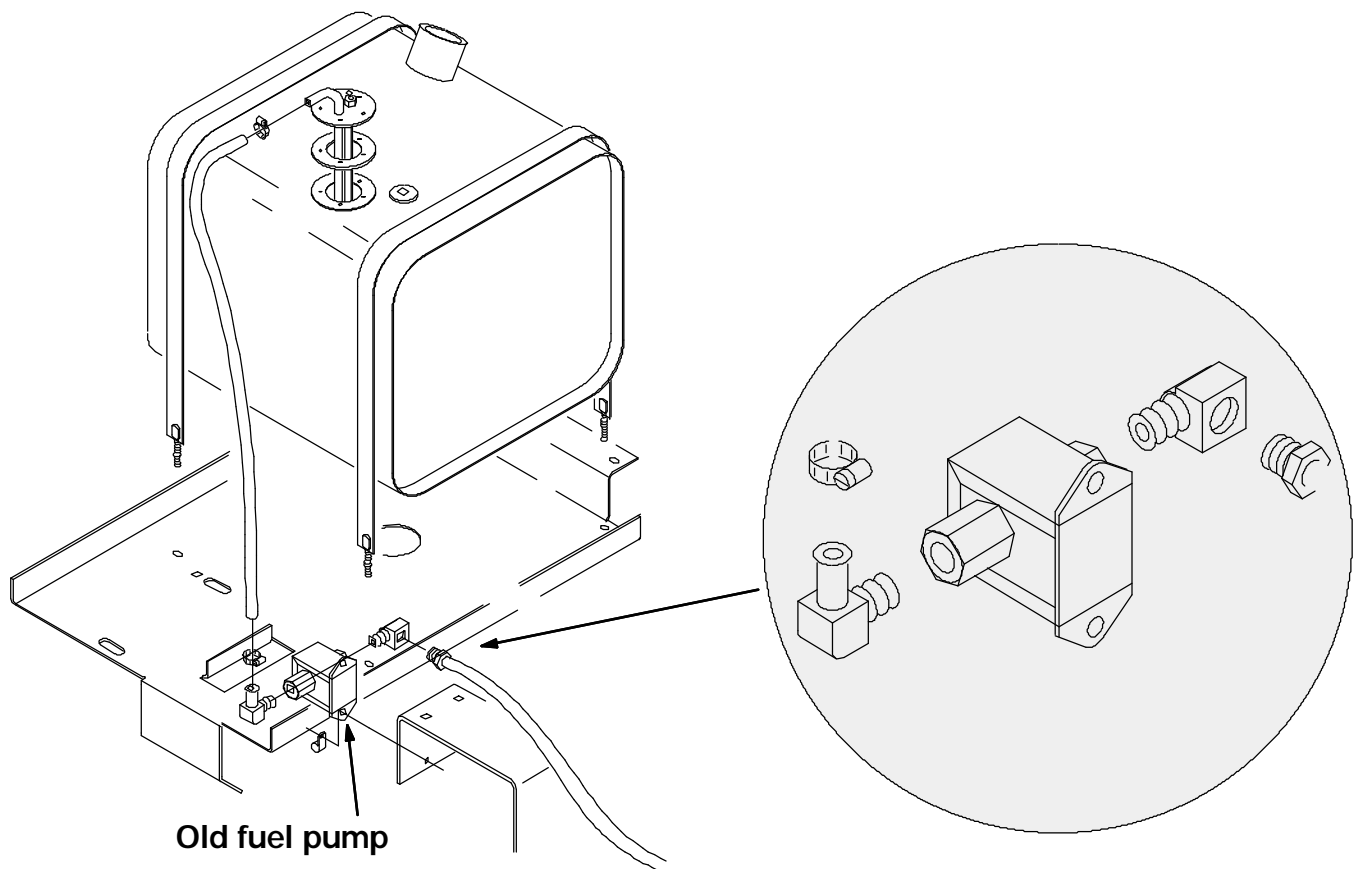

FIG. 4 - 355/385 Fuel Pump Installation
(Refer to FIG. 4 and 5)
4. Disconnect the old fuel pump from the main electrical harness. (Refer to Fig. 4)
5. Disconnect the fuel lines from the old fuel pump. (Refer to Fig. 4)
NOTE: Place a drain pan under the machine in the area of the fuel pump to catch any fuel that may run out of the disconnected lines. (Refer to Fig. 4)
6. Remove and retain the hardware holding the old fuel pump to the fuel pump mount plate. Remove the old fuel pump from the machine. (Refer to Fig. 4)
7. Remove the fittings from the old fuel pump and install in the same orientation on the new fuel pump (1). (Refer to Fig. 4)
1. Install the new fuel pump (1) on the machine frame mount plate. (Refer to Fig. 4 and 5)
2. Reinstall the hardware removed in step 6 of the PREPARATION FOR 355/385 GAS AND DIESEL instructions. (Refer to Fig. 4 and 5)
3. Plug the connector of the new harness (3) into the connector on the new fuel pump (1).
5. Reconnect the fuel lines to the new fuel pump (1). (Refer to Fig. 4 and 5)
7. Reconnect the battery cables and start the machine. Check for any leaks at the new fuel pump. (Refer to Fig. 4 and 5)